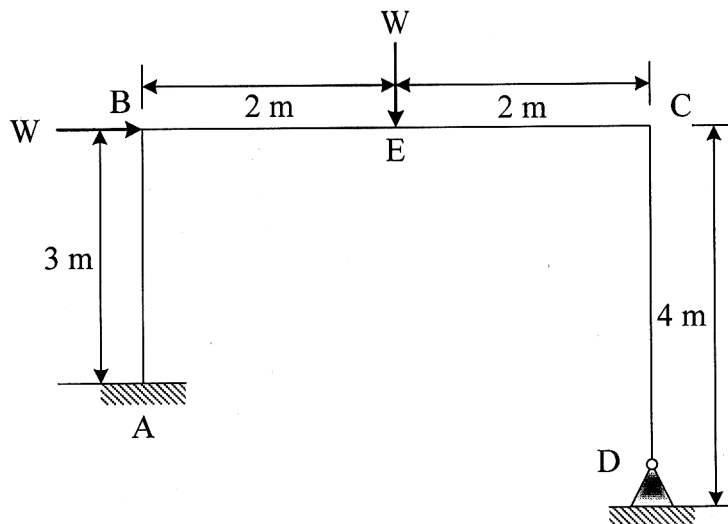

Fig. 8 (b)
- (b) Determine the collapse load for the frame shown in Fig. 8 (b) assuming uniform M_p for all members. [8]